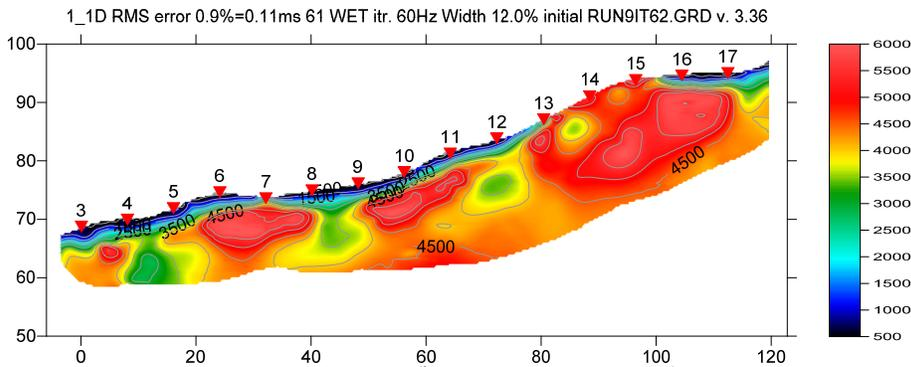

Fig. 10 : Multirun WET showing output of 10th run. Starting model for 1st run is Fig. 8. See Fig. 1 for misfit between modeled and picked traveltimes.
- click *button Start tomography processing* to obtain Fig. 10 & 11
WET inversion shown in Fig. 10 using 10 WET runs with 20 Conjugate-Gradient iterations each and parameters shown in Fig. 6 and Fig. 7 took about 4 minutes on 2017 Apple iMac. This iMac comes with 2.3 GHz Intel Core i5 processor running 4 OpenMP threads under Windows 10 Pro 64-bit in Parallels Desktop 14 for Mac.